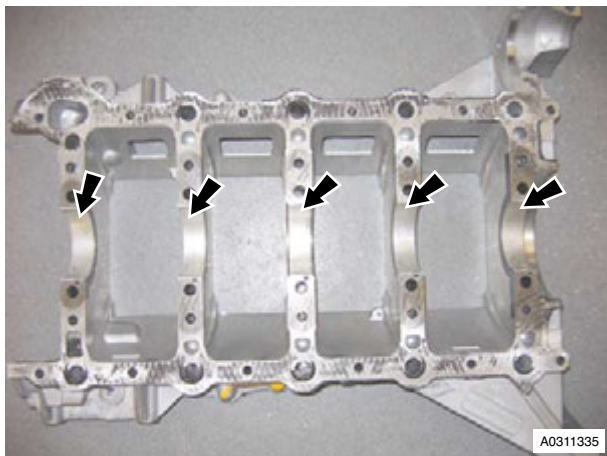

Figure 6
25. Remove main bearing shells (plain) from engine bedplate (see Figure 6).